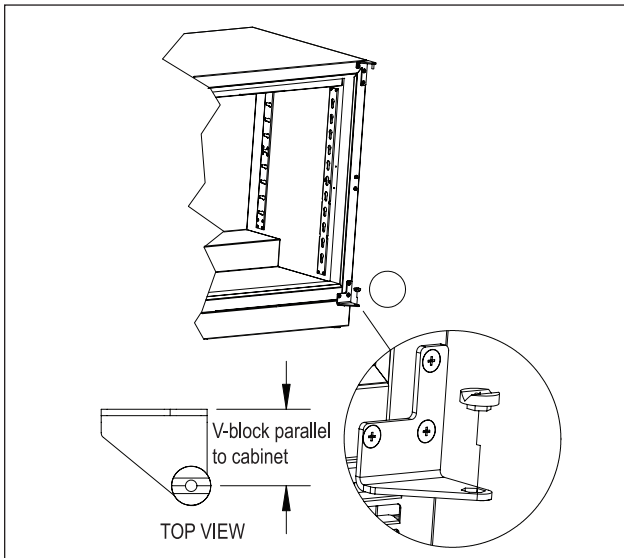

Figure 10: Installing V-Block
11. Place lower V-block into lower cabinet hinge with notch parallel to cabinet (Figure 10).